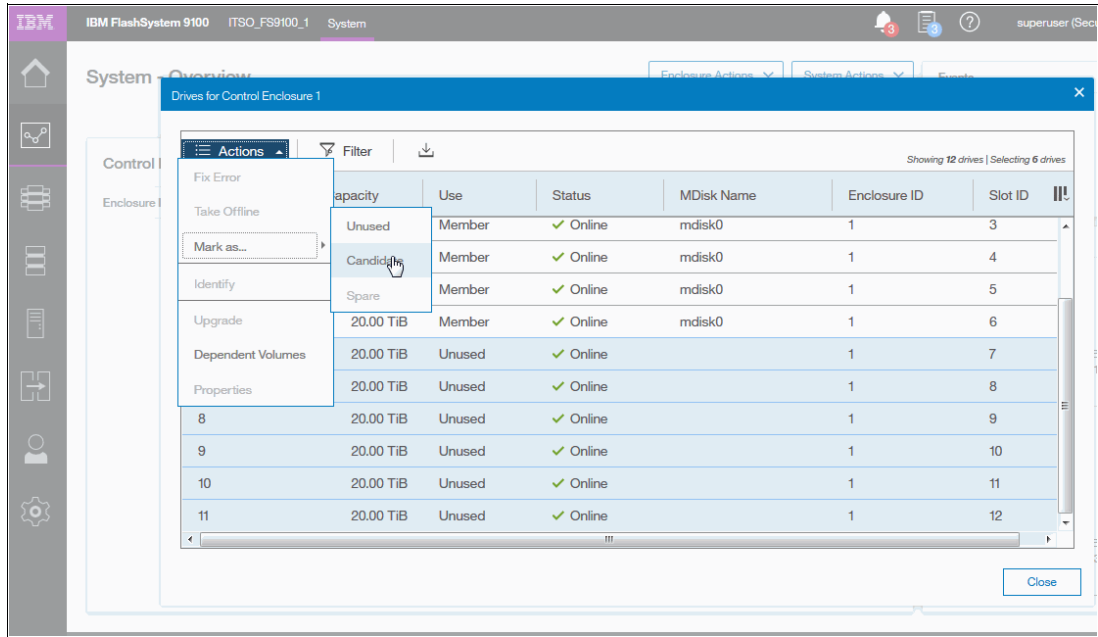

Figure 5-16 Create MDisk, select drives, and mark as Candidate
- b. Select the **Actions** → **Mark As** → **Candidate** status for MDisk creation, as shown in Figure 5-16.